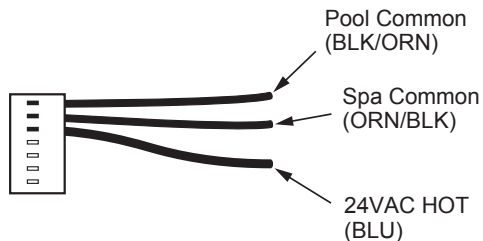

Figure 53. 7-Pin Remote Interface Harness
5. On the “Remote Interface Harness”, connect the BLUE wire to one side of the “REMOTE” switch and connect the other side to either the ORANGE/BLACK wire for “SPA” operation or the BLACK/ORANGE wire for “POOL” operation. See **Figure 53**.
4. On the “Remote Interface Harness” connect the BLUE wire to one side of the “REMOTE” switch and connect the ORANGE/BLACK wire for “SPA” operation and the BLACK/ORANGE wire for the “POOL” operation. See **Figure 53**.